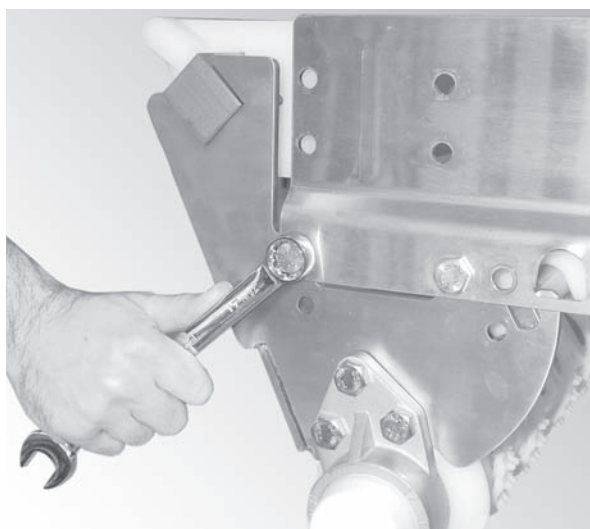

Figure 15
1. Bolt the nose bar drive tail assembly to the conveyor frame (Figure 15).